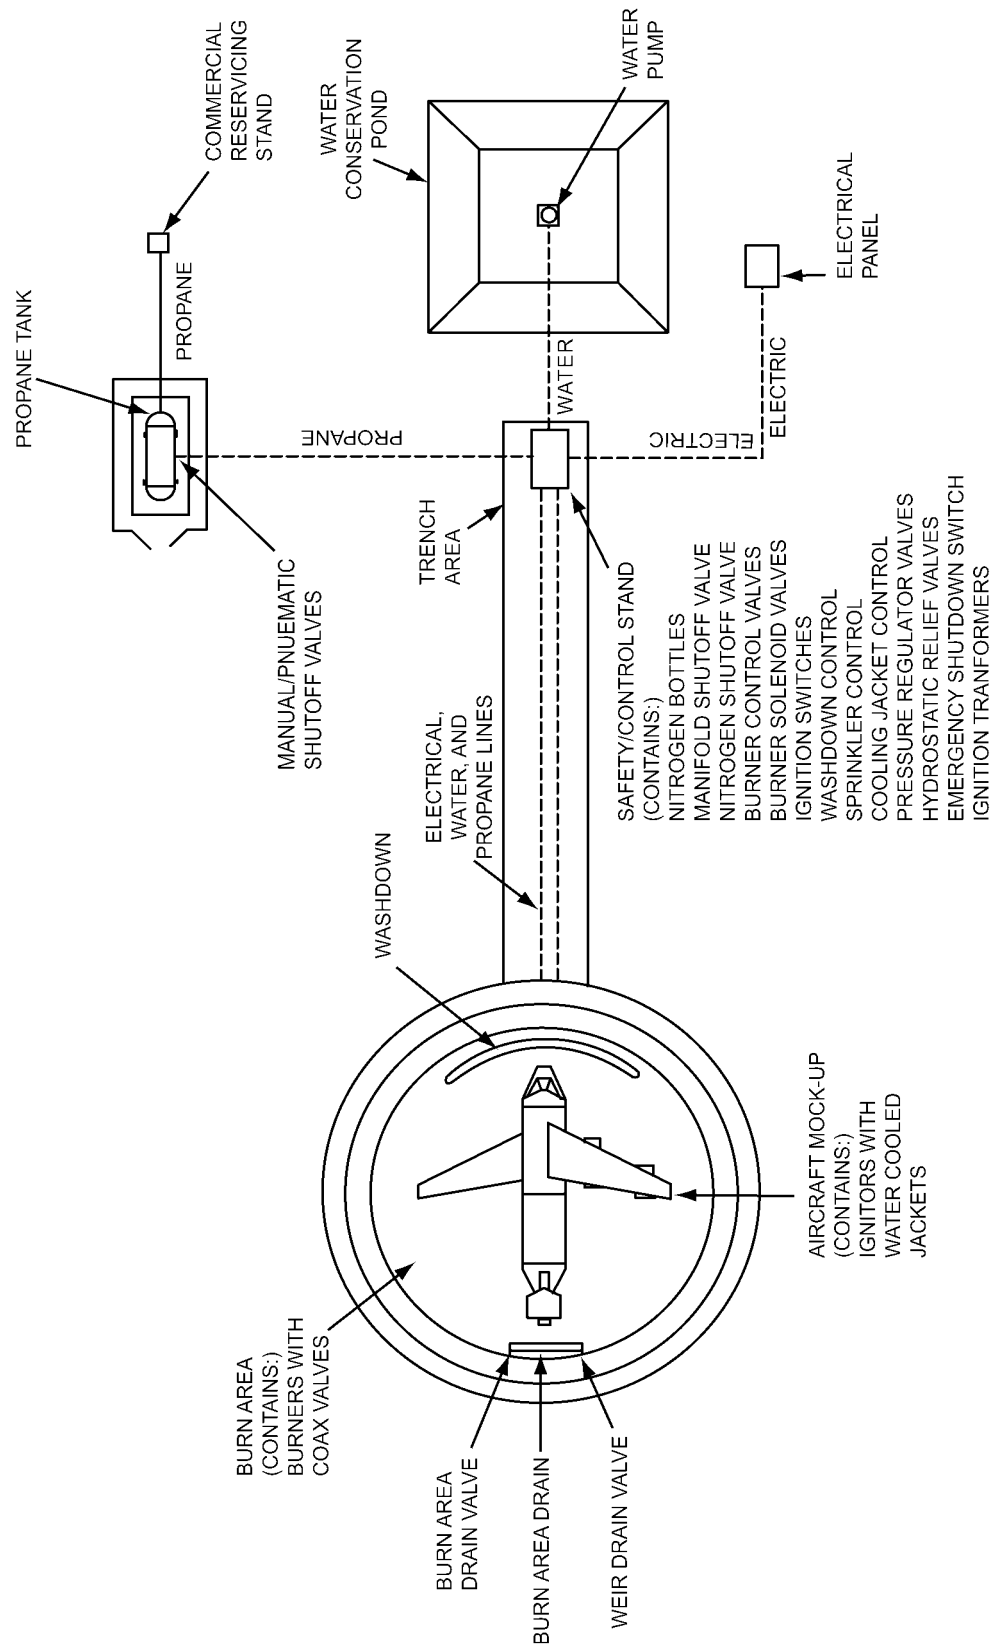

Figure 1. Generic AFTF
11.1 Description. The Air Force Aircraft Fire Training Facility is a generic site adaptable design. The design incorporates a lined burn area and conservation pond for water conservation and recycling, a pneumatic emergency shut-down system, an ignition system, and a liquid propane fuel system. A view of a generic facility is shown in Figure 1. The design provides quality training to maintain firefighting proficiency while meeting all necessary operational and safety standards.
This theory of operation is based on the generic design. Individual sites' configurations may vary. The Aircraft Fire Training Facility (AFTF) consists of an aircraft mock-up, burn area, control stand, and the following systems: liquid propane fuel, cathodic protection, nitrogen and water conservation. Refer to Figure 1 for specific site configurations. General maintenance procedures are described in WP 007 00. The aircraft mock-up, located in the burn area, is constructed of uncoated/unpainted carbon steel. It is approximately 72 feet long, 25 feet high at tip of tail, with a wingspan of 72 feet. The mock-up is configured with three simulated aircraft engines, two on the high wing and one located on the vertical stabilizer. Each engine contains a burner assembly and two ignitors. The wiring to all mock-up ignitors is enclosed in water jackets to protect from extreme heat generated by ground burner fires. Water injection is located in both wing engines and at some sites in the tail engine. The wing engines also have dams and plumbing installed to simulate running fuel fires. Wheel well and auxiliary power unit fires are simulated on the high wing side of the fuselage adjacent to the inboard engine. In the interior of